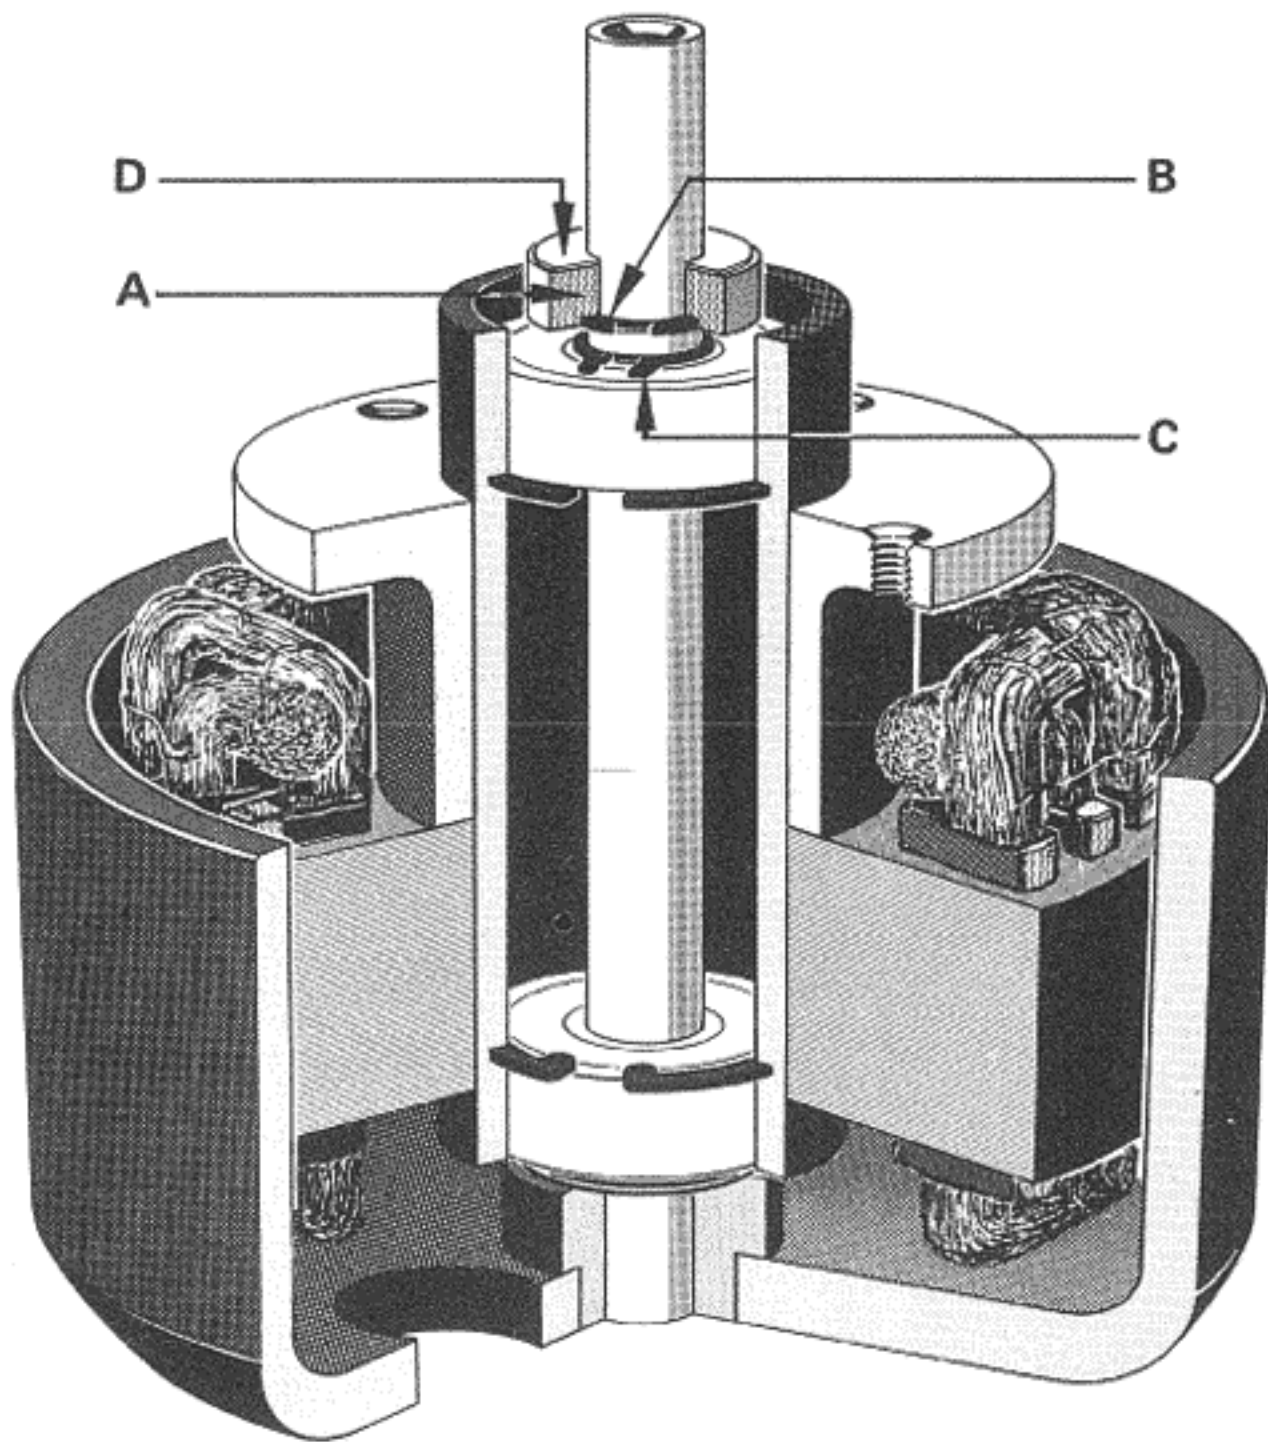

Fig. 4.5–27
**4.5. Capstan Motor (with Ball Bearing) Fig. 4.5.-26**
All bearings are lubricated for their life and should normally require no service. They shall be exchanged only with original bearings, in case of malfunction. If the capstan axis is exchanged, the upper felt washer of sintered bearing D ( fig. 4.5–26 ) is to be lubricated with some drops MOBIL DTE extra heavy.